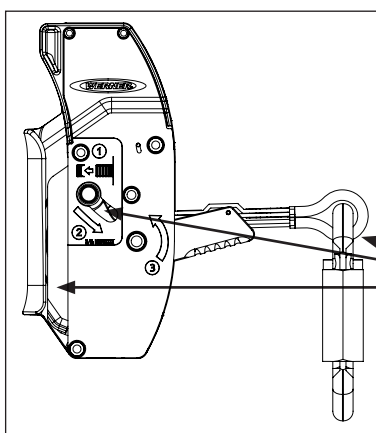

Fig. 3 Closed: Lever down, safety pin closed, cable channel closed.
- Release the L213500. The safety pin will return to its original position and close the channel cover, capturing the cable. (Fig. 3)